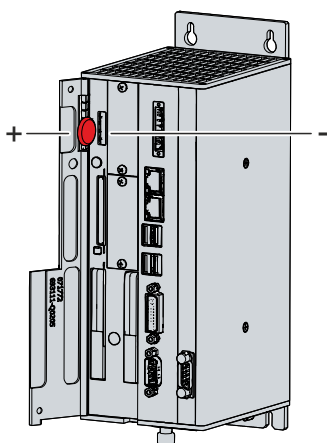

Fig. 27: Battery change
1. Remove the SSD from the PC by pulling forcefully on the protruding Beckhoff sticker (see fig. 27).